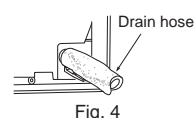

Fig. 4
- Insert the drain hose fully into the drain pan at the rear right of the indoor unit. (Fig. 4)
- Insert the drain hose into wall hole sleeve (C), and hook the upper part of indoor unit on installation plate (1). Then, move the indoor unit completely to the left in order to make placing the piping in the back space of the unit easier.